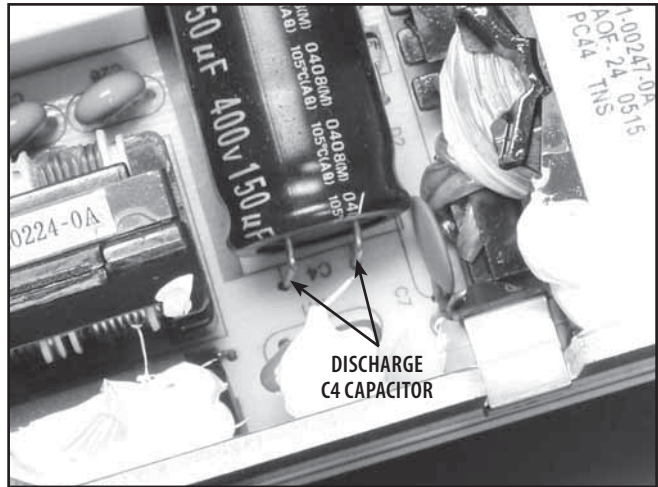

FIGURE 5.4
5. Set the Digital Multimeter to Ohms and discharge the capacitor at C4 of the Power Supply. See Figure 5.4.